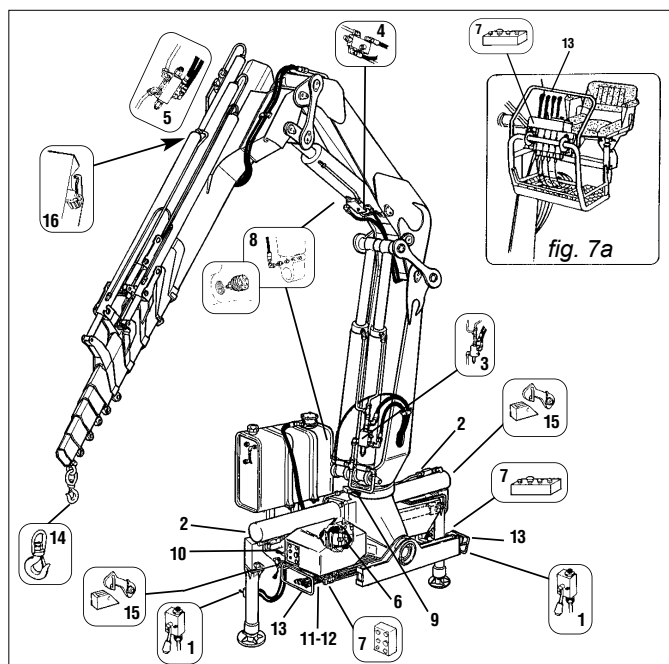

fig. 7
- Top seat controls (fig. 7a) for crane by hand-cables (optional) (fig. 7)